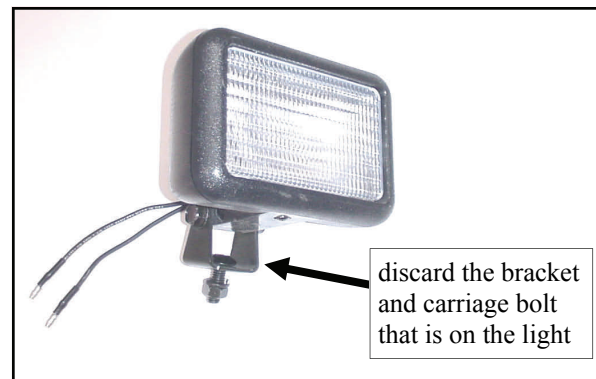
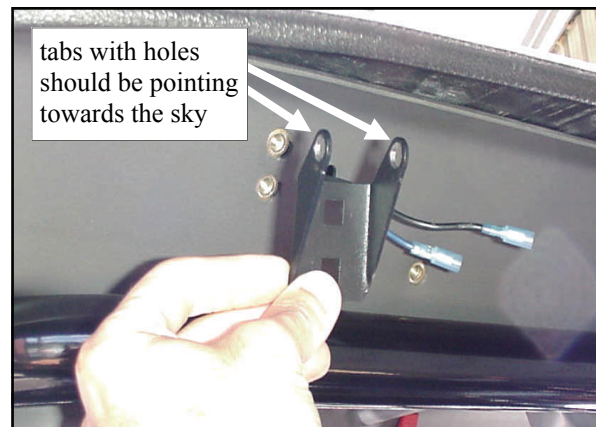

Fig. 8.5 Optional Work Light and Bracket
Fig. 8.5.1 Optional work light bracket
8.5 OPTIONAL: If installing the optional work lights (kit p/n 2876382), discard the two brackets with the 3-hole pattern on the light and use the supplied bracket with the 4-hole pattern. See fig. 8.5. Install work light brackets oriented as shown in figure 8.5.1. Use four 1/4-20 x 3/4" long Truss head, Phillips head bolts into factory installed threaded inserts in the front of the overhead console. Leave bolts loose.